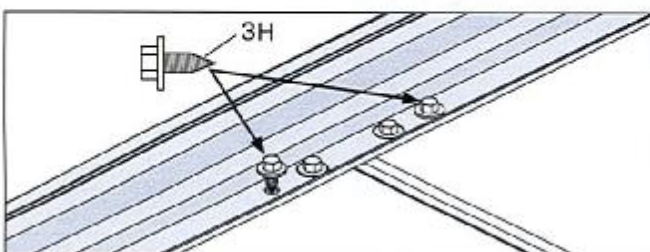

Figure 12.
- b. (Dual installation only) Install outer screws on common mounting bracket, align top trim and attach with 3/8" socket. (See Figure 12).